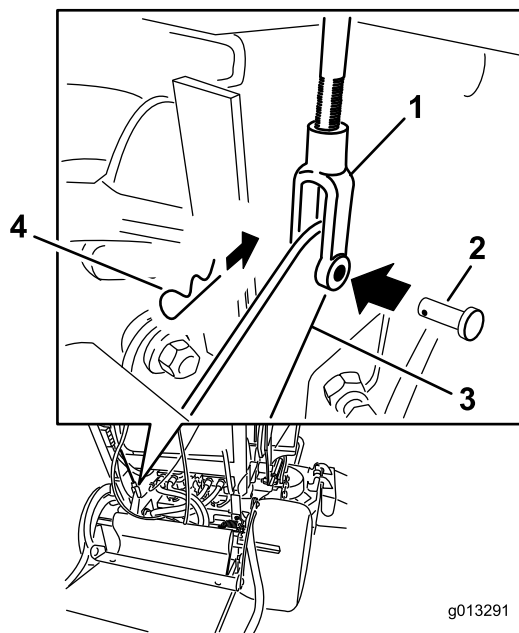

Figure 61
4. To adjust the brake, remove clevis pin and hairpin cotter pin from the lower brake lever and yoke (Figure 61).
7. Secure the yoke to lower brake lever with the clevis pin and hairpin cotter pin (Figure 61).